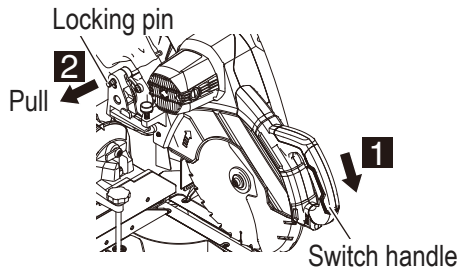

Fig. 6
7. Releasing the locking pin (Fig. 6)